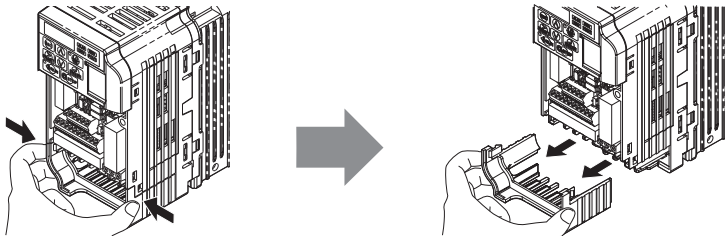
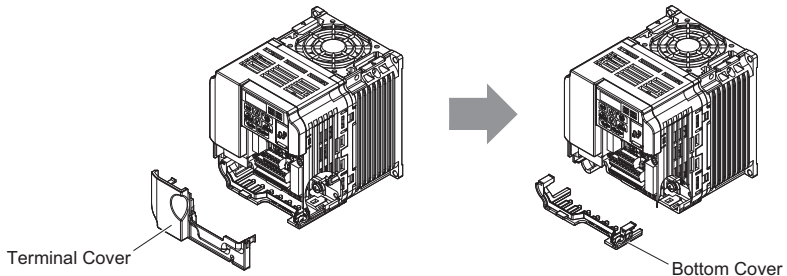

Figure 6 Remove the Bottom Cover on an IP20/Open-Chassis Drive (Models CIMR-V□□BA0001B to BA0003B and 2A0001B to 2A0006B)
Figure 7 Remove the Terminal Cover and Bottom Cover on an IP20/Open-Chassis Drive (Models CIMR-V□□BA0006B to BA0018B; 2A0008B to 2A0069B; 4A0001B to 4A0038B)
3. For IP20/Open-Chassis models CIMR-V□□A□□□□B, remove the bottom cover of the drive by applying pressure to the tabs on each side of the bottom cover. Pull the bottom cover away from the drive while pushing in on the tabs to release the cover from the drive. Refer to Figure 6 for details. Refer to Figure 7 for drive models CIMR-V□□BA0006B to BA0018B, 2A0008B to 2A0069B, and 4A0001B to 4A0038B, which require removing the terminal cover prior to removing the bottom cover.